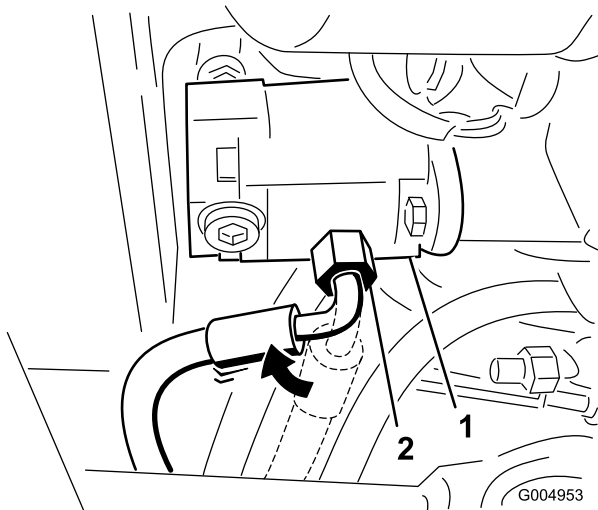

Figure 106
16. Loosen the pressure hose fitting at the pump and rotate the fitting 45 degrees toward the front of the machine (Figure 106).
Note: Figure 106 is shown as viewed from under the traction unit.